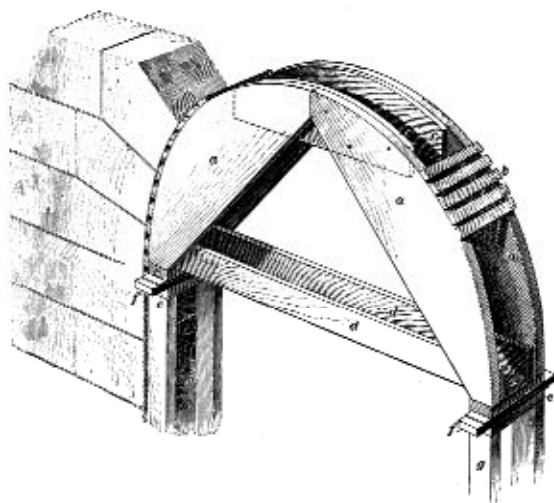

FIG. 62.
**111.** Fig. 62 represents a form of center suitable for arches of small span. At *a* are shown the *bearers*, which